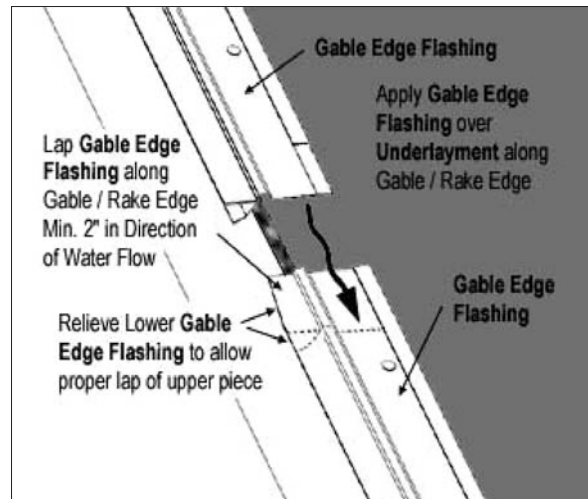

FIGURE 1-22 Gable/Rake Junctions
3. Apply Gable/Rake Edge flashing as shown. Gable Edge Flashing joints must be lapped a minimum of 2 inches (50 mm) and in the direction of water flow. *See Figure 1-22.*